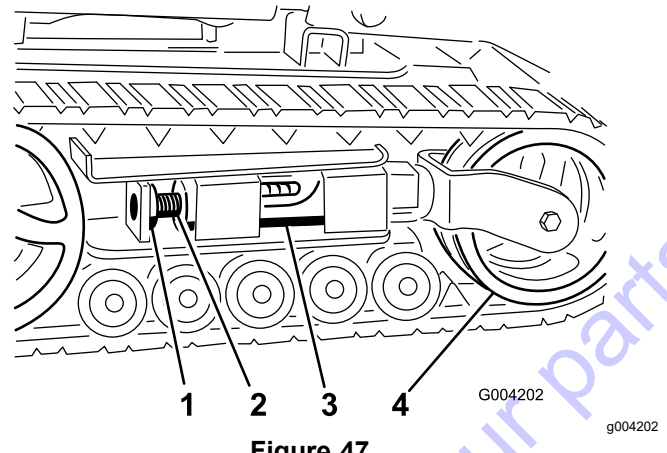
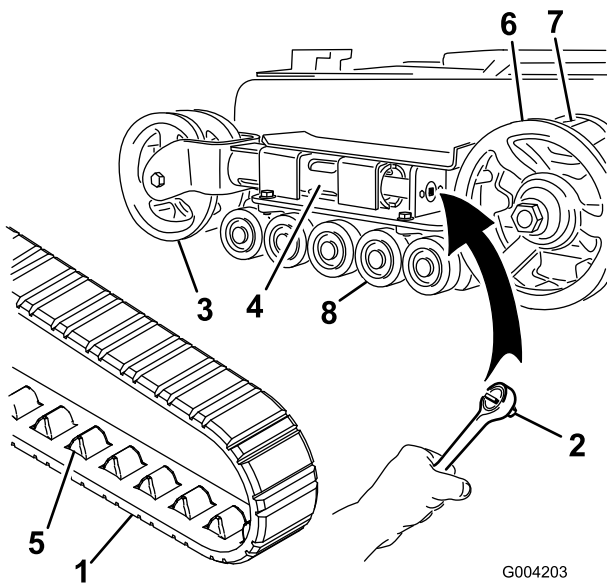
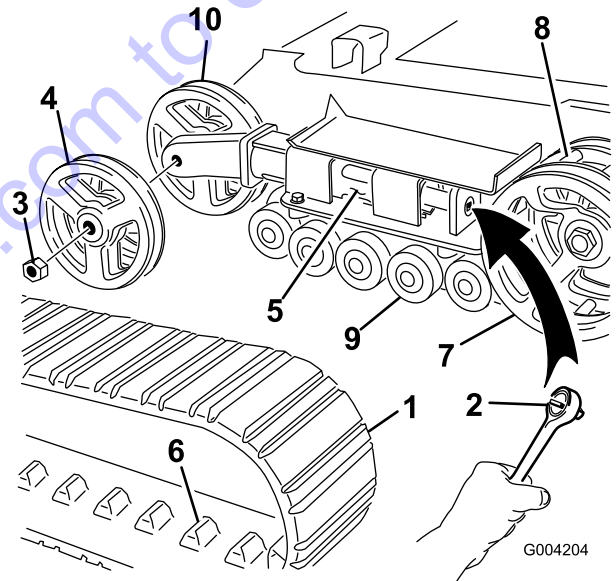

Figure 47
Figure 48
Figure 49
4. Remove the locking bolt and nut (Figure 47).
6. Align the closest notch in the tension screw to the locking bolt hole and secure the screw with the locking bolt and nut (Figure 47).
Note: You have narrow-width tracks if the front tension wheels are mounted inside a fork on the end of the tension tube (Figure 48).
5. Using a 1/2-inch drive ratchet, release the drive tension by turning the tensioning screw clockwise (Figure 47 and Figure 48).
6. Push the tension wheel toward the rear of the unit to move the tension tube against the frame (Figure 48).
8. When the track is off the tension wheel, remove it from the drive sprocket and road wheels (Figure 48).
9. Beginning at the drive sprocket, coil the new track around the sprocket, ensuring that the lugs on the track fit between the cogs on the sprocket (Figure 48).
10. Push the track under and between the road wheels (Figure 48).
Note: You have wide-width tracks if the front tension wheels are mounted on the sides of the end of the tension tube (Figure 49).
5. Using a 1/2-inch drive ratchet, release the drive tension by turning the tensioning screw clockwise (Figure 47 and Figure 49).
6. Push the tension wheel toward the rear of the unit to move the tension tube against the frame (Figure 49).
7. Remove the nut securing the outer tension wheel and remove the wheel (Figure 49).
8. Remove the track (Figure 49).
9. Remove the nut securing the inner tension wheel and remove the wheel (Figure 49).
13. Install the inner tension wheel and secure it with the nut removed previously (Figure 49).
15. Install the new track, ensuring that the lugs in the track fit between the cogs in the middle of the drive sprocket (Figure 49).
16. Install the outer tension wheel and secure it with the nut removed previously (Figure 49).
6. Place the greased road wheel cap over the bolt head (Figure 48).
7. Secure the road wheel cap with the snap ring (Figure 48).